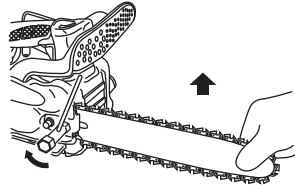

Fig. 7
8. Raise the bar end and securely tighten the chain bar clamp nuts with the combi box spanner. (Fig. 7)